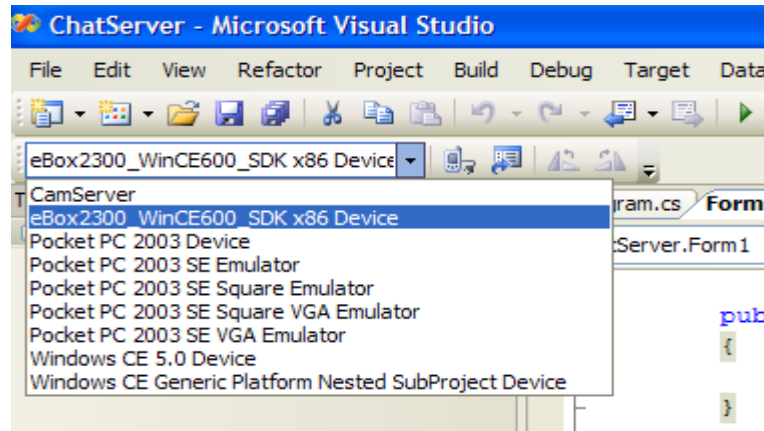

Figure 62 VS 2005 Target Device
1. Set the target device to Your eBox SDK name on the target device drop down menu as shown in figure 62.